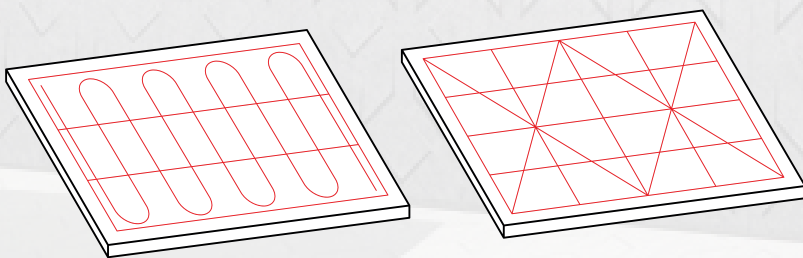

Fig. 1. Adhesive Pattern
3. *Then apply a line of adhesive using one of the two patterns shown in Fig.1.*